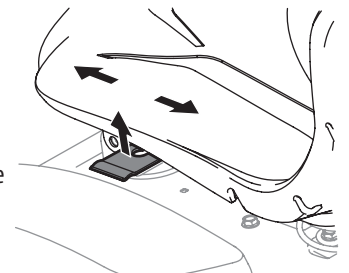

Figure 11
- Release the adjustment lever. Make sure seat is locked into position before operating the tractor. See Figure 11.